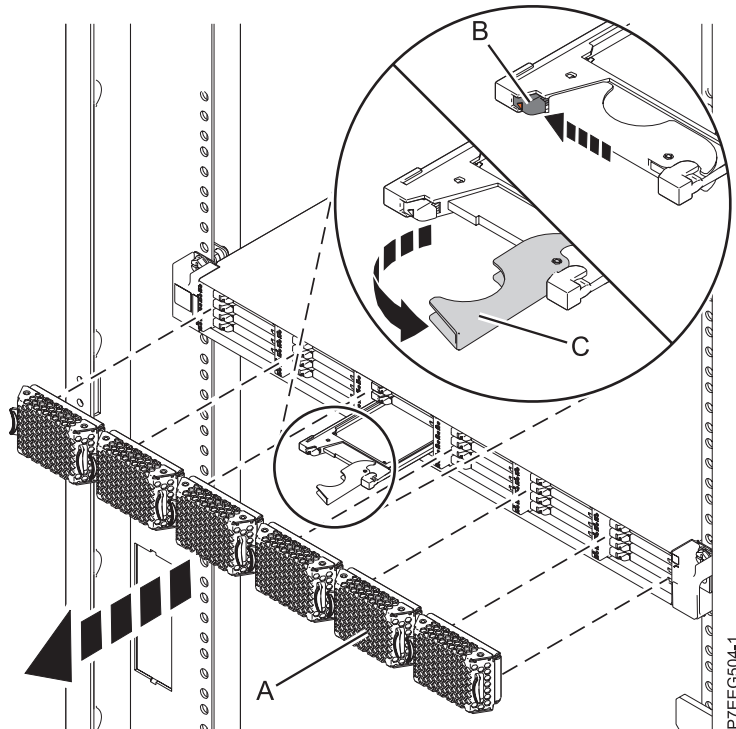

Figure 21. Removing the solid-state drive from the ED/R1 PCIe storage enclosure
1. Pull off the bezel (A) that covers the slot that contains the solid-state drive. See Figure 21 on page 37.
2. Slide the release latch (B) over gently to unlock the drive handle.
3. Grasp the handle (C) and pull the drive partially out of the slot.